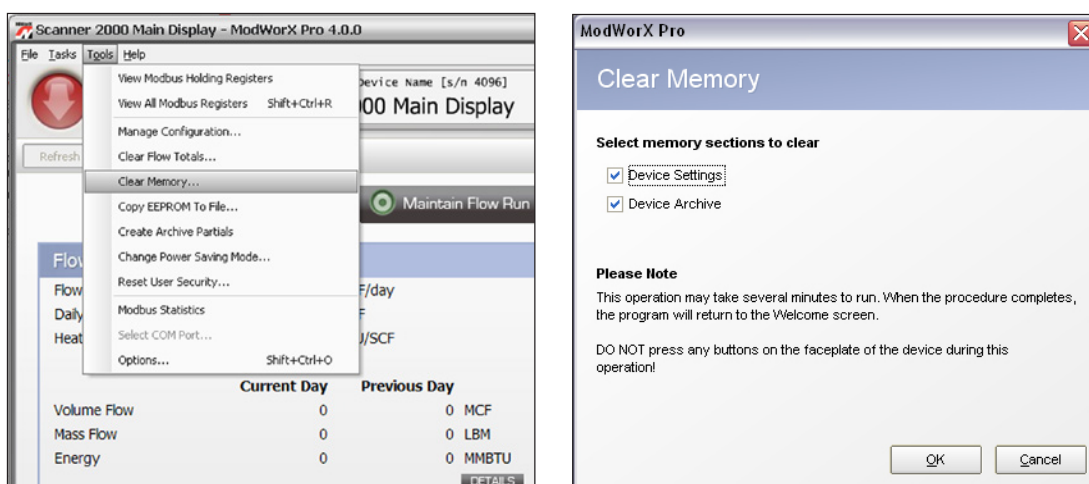

Figure A.8
1. Click on **Tools>Clear Memory** (Figure A.8).